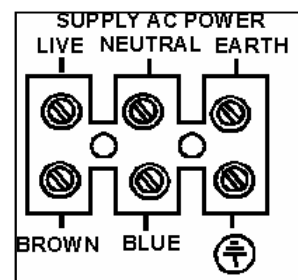

Fig. 3
2. Connect the earth wire to the connector opposite the green/yellow cable. (Ref Fig. 3)